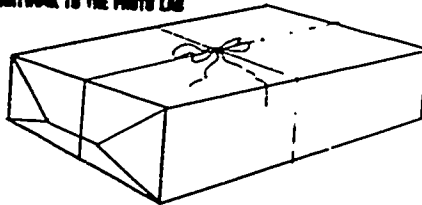

Figure 2-4. 35mm production steps.
**Layout Procedures.** Let's look at how a 35mm slide is handled from the work order to the final slide. The following steps are an outline of the production of a 35mm slide. (Refer to fig. 2-4.)
(1) You receive a work order with an attached draft which shows you what is required on the slide(s).
(2) Call the project officer or consult the person who accepted the work order to make sure all the instructions are clear and you understand exactly what is needed.